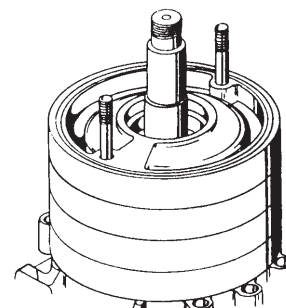

Figure 4-9
14. To complete the second stage assembly, install a right hand channel ring (#9B) facing downward toward the impeller. (refer to figure 4-9) The small discharge opening should be in the "seven o'clock" position.